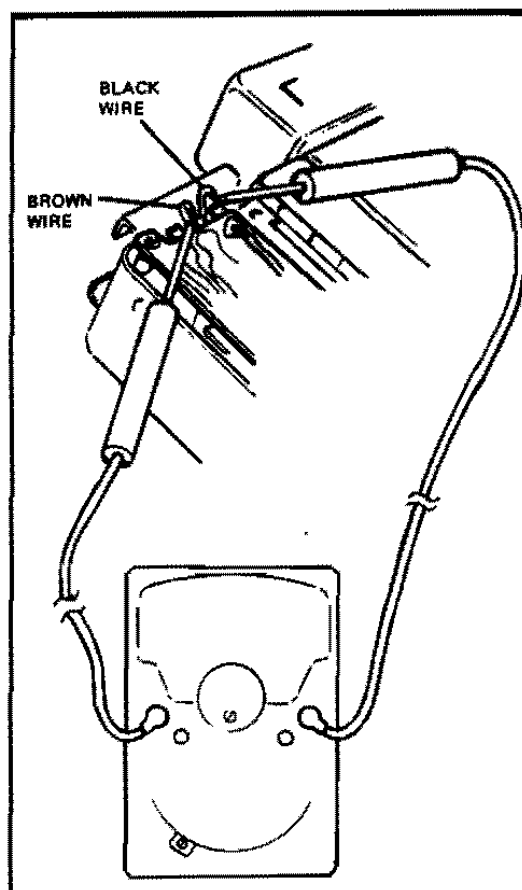

FIG. 3-6 CHECKING CONVERTER INPUT VOLTAGE
- c. Set a VOM (or comparable meter) at 3 vdc and place the probes on the converter terminals which hold the black and brown wires (Figure 3-6).